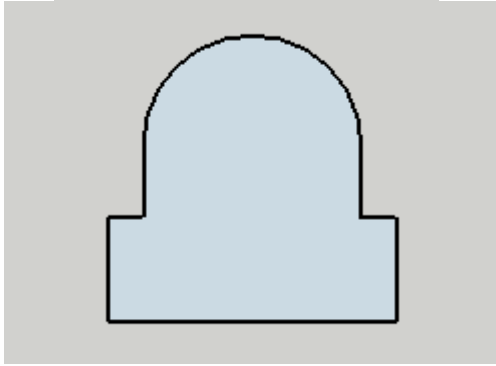

Figure 7-55
1. Start in Top view and create the basic window shape. The window shape shown in Figure 7-55 is a complex arch shape, but you can use any shape you like.